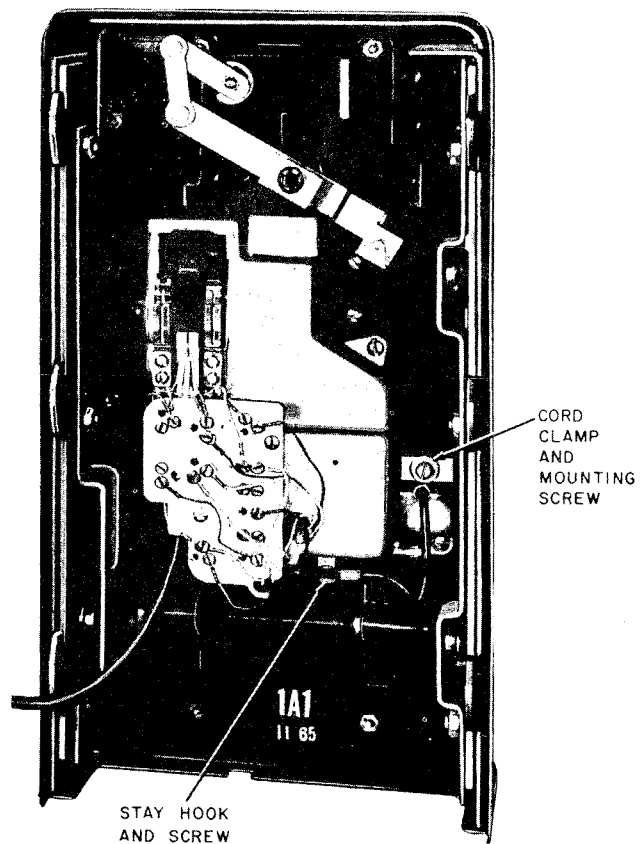

Fig. 30— Location of Armored Cord Mounting Hardware in 1A-Type Coin Telephones
- 3.39 Refer to Fig. 30 for routing and securing handset cord in 1A-type coin telephone.